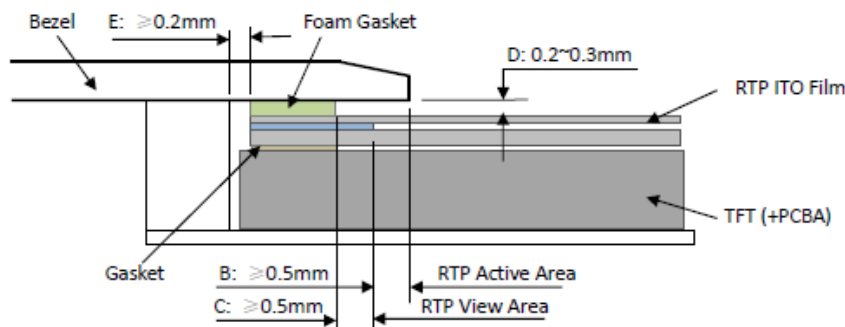

Figure 4
- It should bezel touching the RTP Active Area (A.A.) to prevent abnormal touch.It should left gab D=0.2~0.3mm in between. (Figure 4)
- Outer bezel design should take care about the area outside the A.A. Those areas contain circuit wires which is having different thickness. Touching those areas could de-form the ITO film. As a result bezel the ITO film be damaged and shorten its lifetime. It is suggested to protect those areas with gasket (between the bezel and RTP).The suggested figures are B $\geq 0.50\text{mm}$ ; C $\geq 0.50\text{mm}$ . (Figure 4)
- The bezel side wall should keep space E= 0.2 ~ 0.3mm from the RTP. (Figure 4)
- 为避免面框直接压在动作区(A. A.)上造成误动作, 面框与电阻触摸屏(RTP)之间应留有一定的空隙D=0.2~0.3mm之间. (附图4)
- 设计面框时, 要注意用面框保护触摸屏四周的非保证操作区域, 因为布线区域在此处形成一台阶, 在此区域附近操作时ITO Film变形较大, 容易导致ITO损坏而降低寿命。为保护RTP和避免误操作, 在RTP与面框之间垫缓冲物(Gasket), 我们建议设计面框应覆盖动作区的边缘, 面框边缘到V. A. 区的距离B $\geq 0.50\text{mm}$ ; 垫圈内边缘到V. A. 区的距离C $\geq 0.50\text{mm}$ . (附图4)
- 在设计面框与RTP组装时, 应考虑到面框内侧与RTP外侧的间距E $\geq 0.2\text{mm}$ . (附图4)